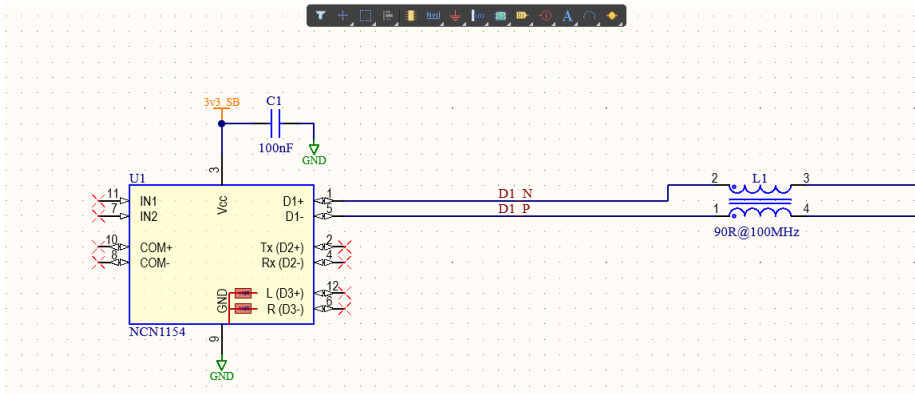

Figure 2. Differential Signals
7. Repeat Step 6 to place net label `D1_P`. Final placement of net labels should look like as shown in Figure 2.